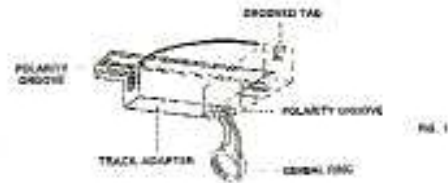

FIG. 1
2. Insert track fixture adapter into track. Pull down on the grooved tab and turn the adapter so that the polarity grooves on the adapter and track are both on the same side of the track system. Keep turning adapter until the tab can be locked into the track. (See figure 1).